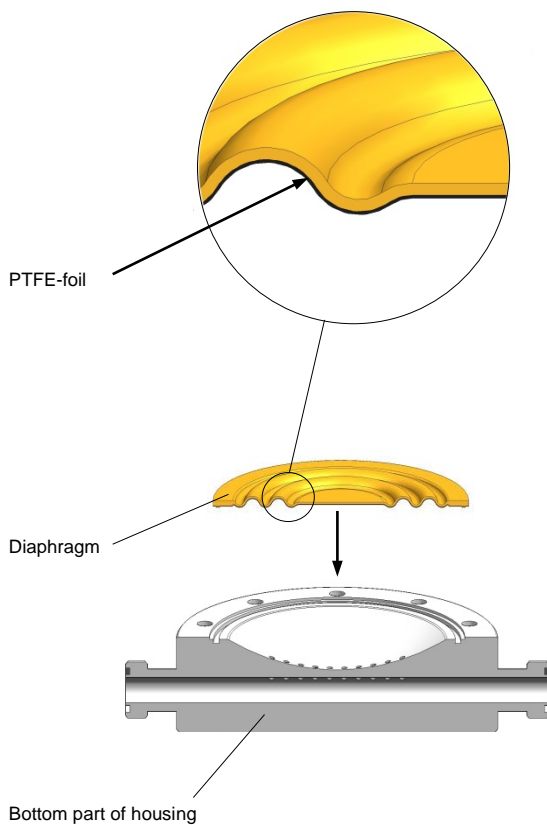

Fig. 29 Changing the diaphragm (plastic)
- Insert new diaphragm with the PTFE-foil pointing downward (in case of plastic pulsation dampers with PTFE-coated diaphragm) (see Fig. 29).